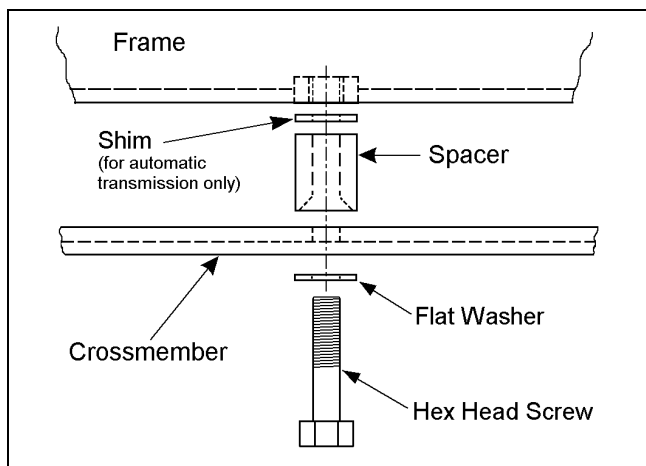

Figure 19
- 5) ☐ If hex head screws were removed, install the hardware from kit 860483. See figure 19.